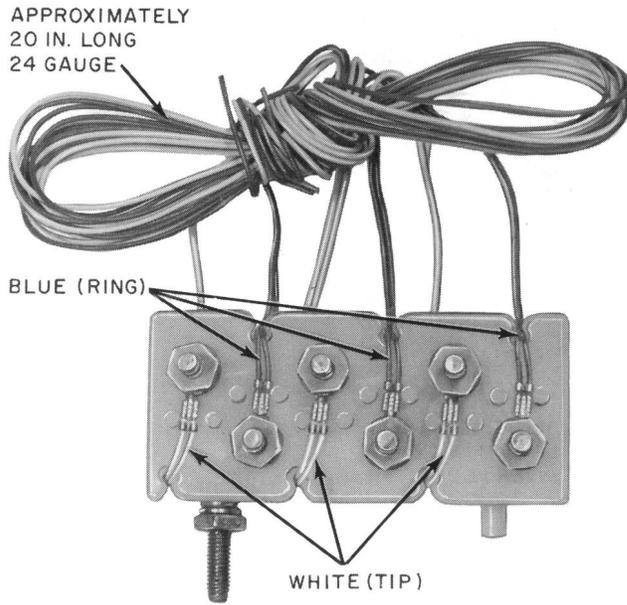

**Fig. 20—Terminating Drop Wire—BD and BE Terminals**
**3.05** Terminate drop wire on cross-connecting type terminals by installing drop wire as shown in Fig. 20. Use G cross-connecting wire between the feeder pair binding posts and vacant drop wire binding posts if required.